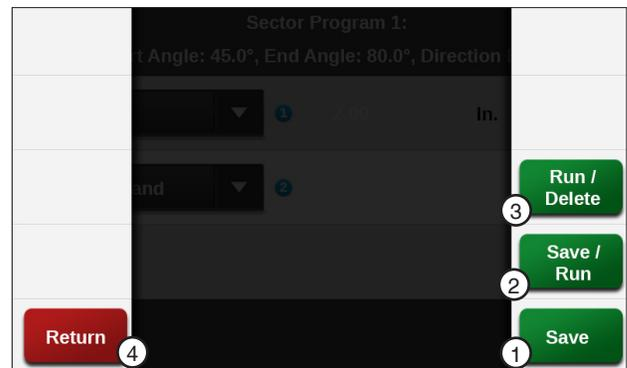

Figure 151-2 1. Save 2. Save/Run 3. Run/Delete 4. Return
12. Finish the program by selecting one of the following. Refer to Figure 151-2.